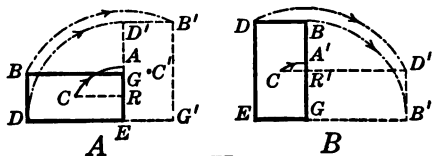

FIG. 104. — Stability increases with area of base.
118. Stable Equilibrium. If an object is in stable equilibrium, it cannot be overturned without first raising its center of gravity. If slightly tipped, it tends to return to its former position. The blocks shown in Fig. 104 are
of gravity C must be raised to the point A . When the center of gravity passes beyond the vertical line AE , so that it falls outside the base, the block will be overturned and fall to the position shown by the dotted lines. The same block, standing on end as in Fig. 104 b , is also in stable equilibrium, but it is not so hard to overturn it as when it lies flat on its side. In position (A) the center of gravity must be lifted the vertical distance RA before it can be overturned; in position (B) the center of gravity must be lifted from R' to A' before it can be overturned. RA is much greater than $R'A'$, hence the greater stability when the block lies on its side. *The stability of an object may be increased by enlarging the base and by having the center of gravity as low as possible.*